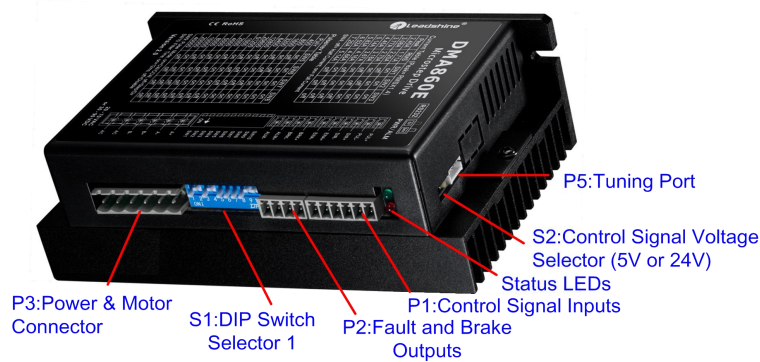

Figure 2 Connectors, DIP switches, and LED locations
PUL+ (CW+)	Pulse and Direction Connection: (1) Optically isolated, high level 4.5-5V or 24V, low voltage 0-0.5V (2) Maximum 200 KHz input frequency (3) The width of PUL signal is at least 2.5μs, duty cycle is recommended 50% (4) Single pulse (step & direction) or double pulse (CW/CCW) is set by DIP Switch SW9 (5) DIR signal requires advance PUL signal minimum 5 μs in single pulse mode (6) The factory setting of control signal voltage is 24V, must need to set S2 (figure 2) if it is 5V
open-collector or PNP connection through the P1 connector (figure 2). It is recommend to add an EMI line filter between the power supply and the drive to increase noise immunity for the drive in interference environments.
- (1) ENA signal is no-connected as default;
- (2) Control signal amplitude is 24 V as default. If it is 12 V, please set the S2 (Figure 2) selector switch to 5 V first, then connect 1K Ω resistor; If it is 5V, please set the S2 to 5V.
The second 1-bit selector is located on the top (S2 in figure 2), used to configure the voltage of control signals. For the safety of optically coupled, the factory setting is 24V, which no need to connect 2K resistors like the old drives, making it easier to use. When the voltage of the control signal is 5V, the S2 must be set to 5V, otherwise, the motor won't work.